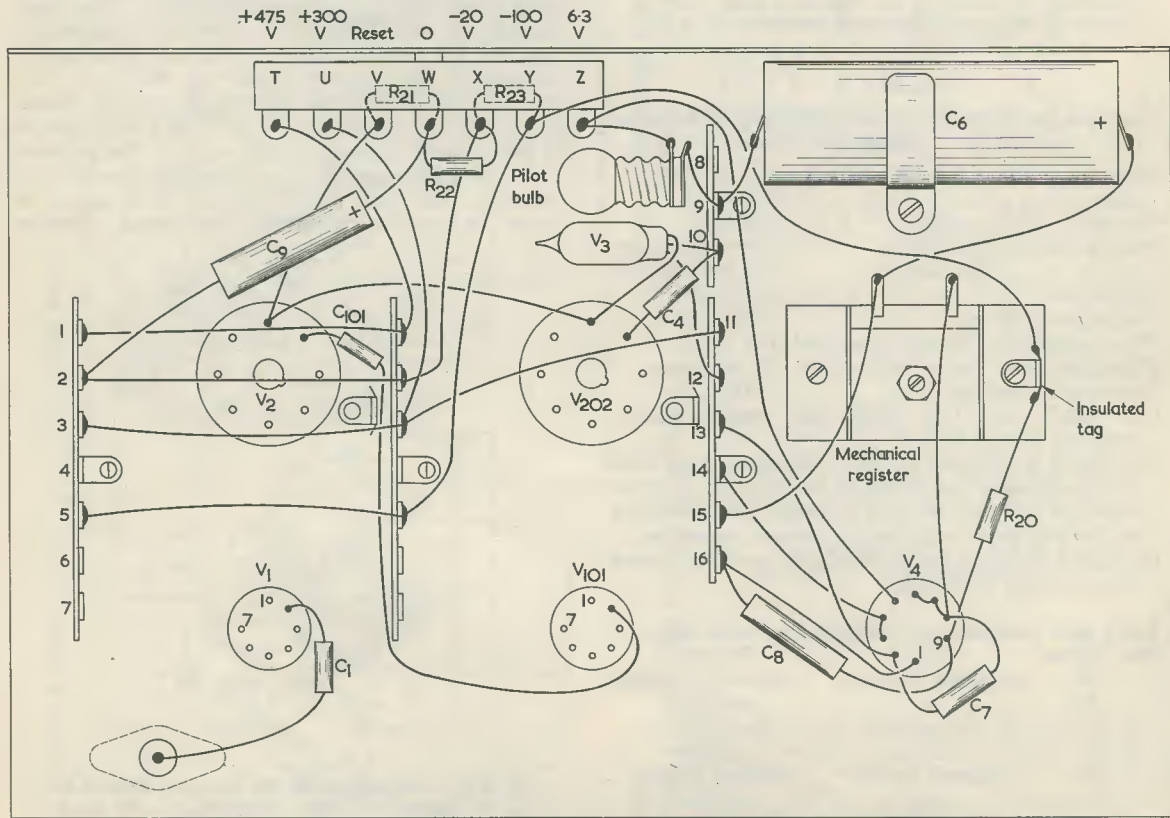
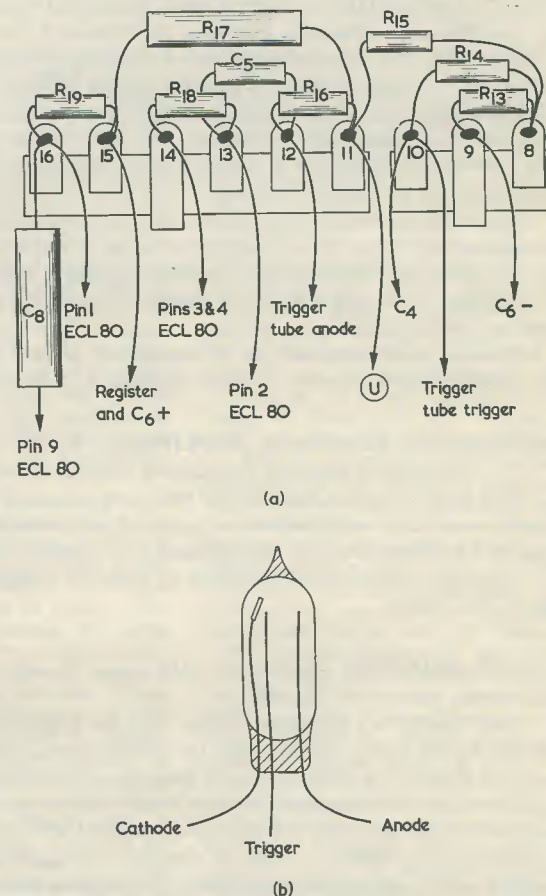

Fig. 8. Interstage wiring for the two-dekatron counter with mechanical register
Fig. 9 (a). Tagstrip wiring for the flip-flop stage
- C₆ 50μF, 350V wkg, electrolytic, with clip (Fig. 8)
Note: All tagstrips are shown in Fig. 8.
Fig. 6. The first part of the wiring of a dekatron stage. The components lie close to the chassis. The tagstrip numbers correspond to those in Fig. 8. R_1 corresponds to R_{101} in the second dekatron stage, and so on
Fig. 7. The second part of the wiring of a dekatron stage. The lettered wires are those carrying h.t. and bias supplies, and they follow the routes shown in Fig. 8
to provide the layout shown in Fig. 8. In Fig. 3, holes A are 4BA and are intended for mounting tagstrips. Holes B are 6BA for mounting B7G and B9A valvebases, and are shown in the positions which apply for the Radiospares valveholders used in the prototype. If other valvebases are employed they should be mounted so that the pins take up the
Connections to GTR 120W are by lead-out wires: details are given in Fig. 9 (b).
Holes D in Fig. 3 are 1 $\frac{1}{8}$ in diameter for octal valvebases, holes E are $\frac{5}{8}$ in diameter for B7G valvebases, and hole F is $\frac{3}{4}$ in diameter for the B9A valvebase. Hole G is initially a $\frac{1}{4}$ in hole, from which slots are cut as shown to give an opening measuring 1 x 1in with four lugs to support the mechanical register. See the photograph of the chassis. Holes H are 4BA and take securing bolts for the counter mounting bracket of Fig. 5. Holes I are clearance size for No. 6 woodscrews which are later used to secure the chassis in the cabinet. Hole J is 4BA, and is employed for the mounting clip for C₆ (see Fig. 8). Finally, hole K is $\frac{3}{8}$ in diameter for the coaxial socket, and holes L are 6BA for the mounting bolts for this socket.
It will also be necessary to drill a hole or holes suitable for mounting a dial lamp holder in the position shown in Fig. 8. This point is referred to in greater detail later.
cabinet. In order that the front of the mechanical register is also flush with the front of the cabinet it is mounted on a small bracket. This bracket is prepared as shown in Fig. 5 and mounted to the chassis as shown in Fig. 8. The register is passed through the chassis and bolted to the bracket, ensuring that the figures on the register are the right way up. The triangular tabs on the main chassis are left in to make the register mounting more rigid, and should be a snug fit on its case. All the components shown in Fig. 8, with the exception of the pilot lamp may now be mounted in position ready for wiring.
The wiring of each dekatron stage is identical, and is carried out in three stages. The components lying near to the chassis are mounted first, as illustrated in Fig. 6, followed by those which cross over valveholders or other components, illustrated in Fig. 7. Finally the interstage and power supply wires are added; these are indicated by the lettered wires in Fig. 7 and illustrated in Fig. 8.
The tagstrip wiring for the multivibrator stage is illustrated in Fig. 9 (a), and the remaining connections can be seen from Fig. 8. The GTR 120W trigger tube is supported by its wires only, and is not mounted until the other wiring is complete. Care should be taken to ensure that the wires are
not bent too close to the glass seal. Fig. 9 (b) shows the electrode structure and connections for this tube. The mounting of the small lamp for illuminating the trigger tube is left to the end. The approximate position for the lamp is indicated on Fig. 8, but the design of holders for these lamps varies so much that the method of mounting must be left to the constructor.